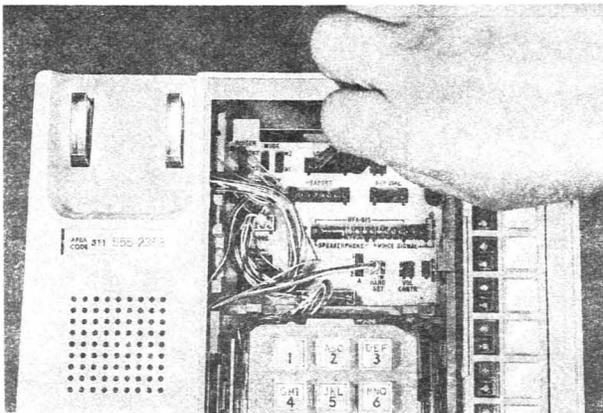

Fig. 9—Interconnect Field
3.04 Electrical interconnections within the sets are made on an interconnect field located above the dial for easy access when the faceplate is removed (Fig. 9). This module consists of a printed wiring board with paths interconnecting pins inserted into the bus. These pins are arranged in groups to correspond with the electrical terminations associated with each component. Each component contains a short wiring harness terminated with a miniature 90° type connector that mates with a specified group of pins on the interconnect module. A plastic guide block on the module protects the pins from being accidentally bent, provides notations to indicate proper connector positions, and prevents the connectors from being inserted improperly. All adjacent features requiring electrical interconnection can be added by simply plugging into the appropriate position in the interconnect module.
4.02 All printed wiring board assemblies and conventional set components are terminated in miniature connectors that mate with set wiring or plug into an interconnect field (Fig. 9). A block diagram indicating the functional relationship between components is found in Fig. 10.